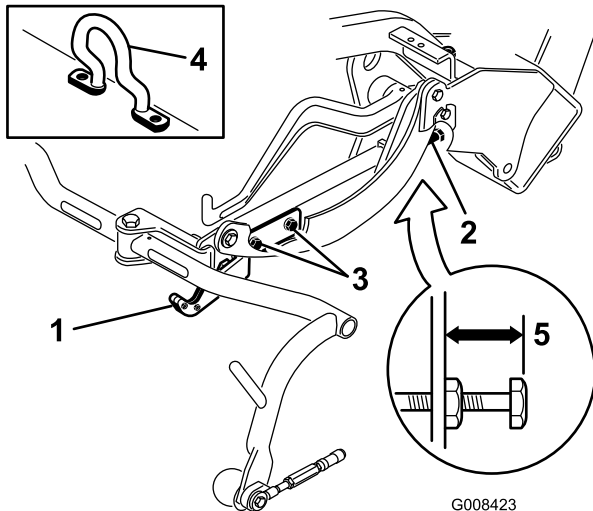
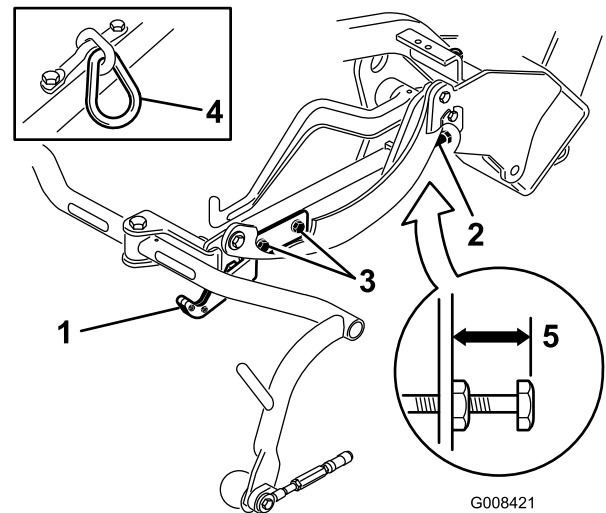
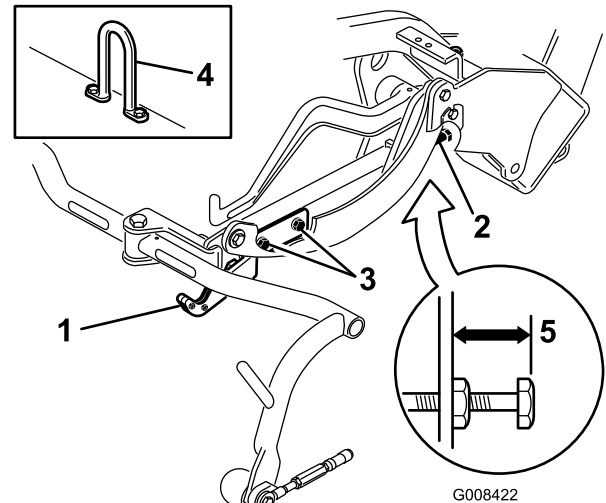

Figure 12
Figure 13
Figure 14
Check the transport height (Figure 13 & Figure 14) and adjust, if required.
2. On cutting units equipped with a offset lift hook (Figure 12, inset) verify that the distance from the top of the carrier frame adjusting screw to the back of the carrier frame is 25 mm (1 inch). If the distance is not 25 mm (1 inch), proceed to step 4.
3. On cutting units equipped with a chain link or a straight lift hook (Figure 13 & Figure 14, insets) verify that the distance from the top of the carrier frame adjusting screw to the back of the carrier frame is 22 mm (7/8 inch). If the distance is not 22 mm (7/8 inch), proceed to step 4. If the cutting unit is equipped with an offset lift link (Figure 12), proceed to the next step.
4. Loosen the transport plate mounting screws (Figure 13, Figure 14 and Figure 12).
(Figure 12, Figure 13, and Figure 14). Rotate the screw outward to raise and inward to lower. Tighten the jam nut after the proper height is obtained.